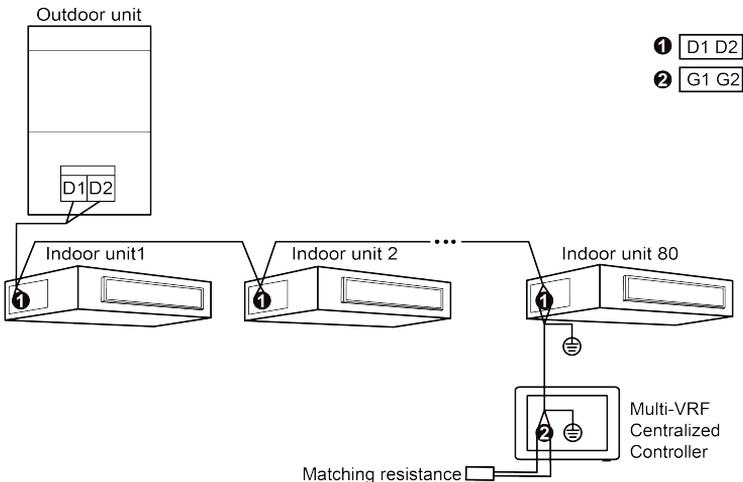

Fig.3.4 Centralized Controller Connected with Indoor Network
- (1) The smart centralized controller is applicable to photovoltaic(PV) multi VRF units, connectable with network of indoor units or the network of outdoor units. One centralized controller can control up to 16 sets of outdoor system and up to 128 sets of indoor unit.
- (2) If the centralized controller is to be connected with the network of indoor units, connect according to fig.3.4. The controller can connect with any one indoor unit in series, that is, connect the controller's G1 and G2 ports with the D1 and D2 ports correspondingly with communication cords, and connect the shielded layer of twisted pair line to ⏏ . When the controller is connected with the terminal unit of indoor network, a matching resistance needs to be added with the communication cords at the G1 and G2 ports.